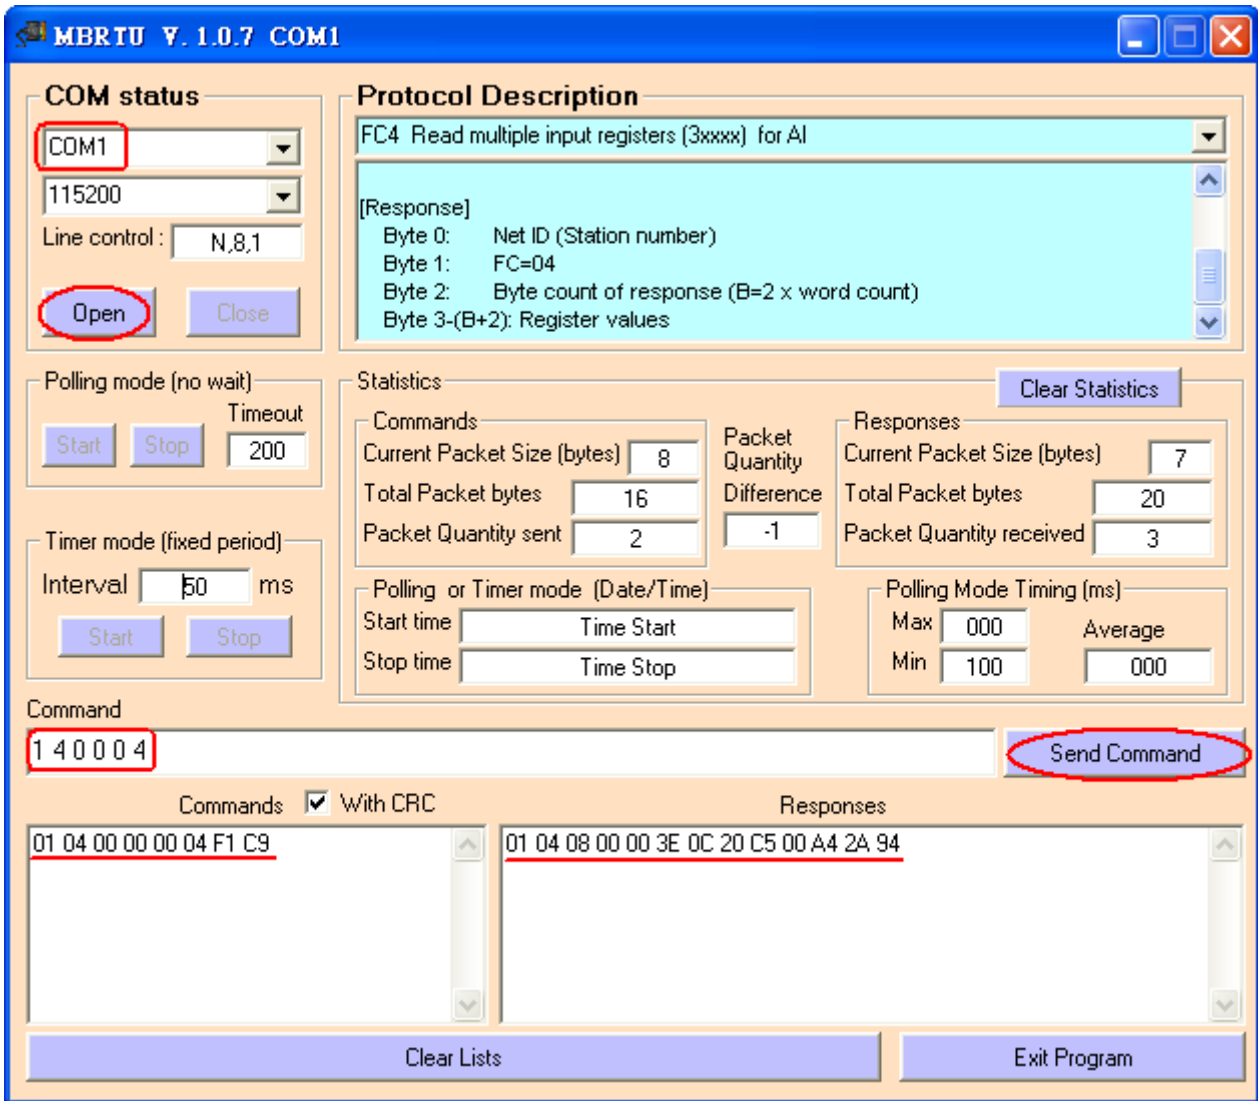

Figure 5-2 Receive HART Command 1 data
- (2) The below demo will use the free MB/RTU tool provided by ICP DAS to show HART command 1 data. (Download from [http://ftp.icpdas.com.tw/pub/cd/8000cd/napdos/modbus/modbus\\_utility/](http://ftp.icpdas.com.tw/pub/cd/8000cd/napdos/modbus/modbus_utility/))
- (3) Run “MB/RTU” tool. Set the com port settings the same with HART-710 (Baud Rate / Data Bits / Stop Bits / Parity) and then click “Open” button to connect to HRT-710 like Figure 5-2.
- (4) Input “1 4 0 0 0 4” in “Command” field and click “Send Command” button to send the modbus command. The HART command 1 data will be received in “Responses” field => “01 04 08 00 00 3E 0C 20 C5 00 A4 2A 94” like Figure 5-2.